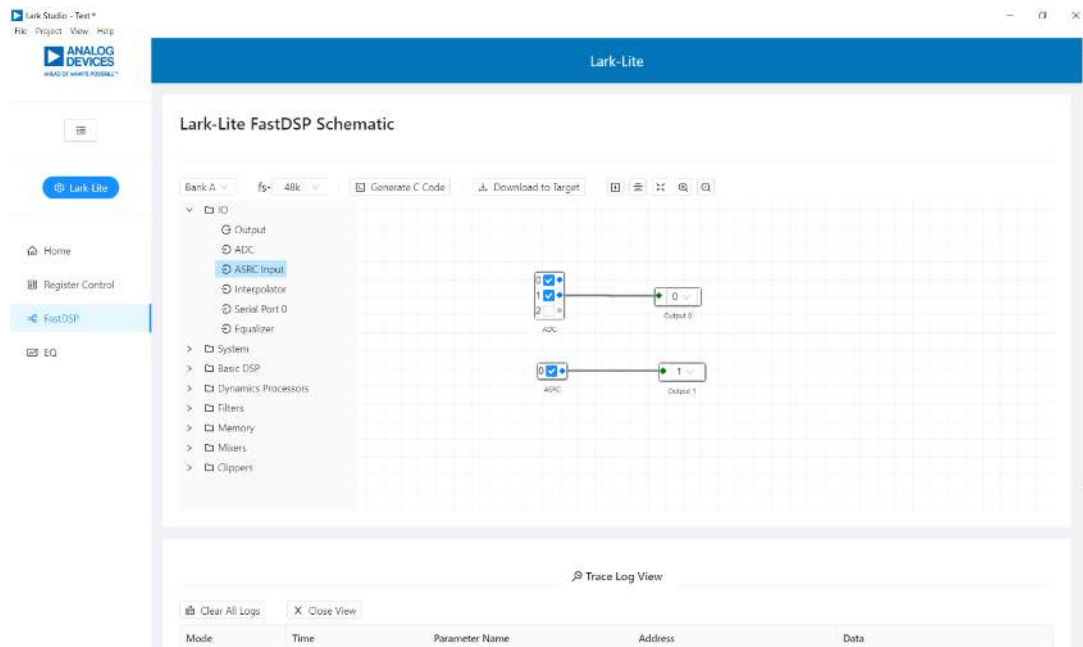

Figure 6. FastDSP Schematic Configuration
3. Select and drag an icon into the schematic window, for example, the **ADC** icon within the **IO** folder (see Figure 6). In this example, AIN1 and ASRC1 are being routed to FastDSP **Output 0** and **Output 1**.